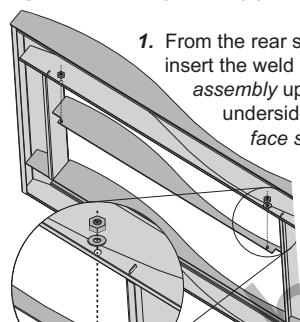

FIGURE 87
1. From the rear side of the clean face surround, insert the weld studs on the top window plate assembly upward through the holes on the underside of the top section of the clean face surround. (FIGURE 87)
2. Using a socket wrench, secure using the nuts and washers provided. Depending on your surround, space may be tight. (FIGURE 87)